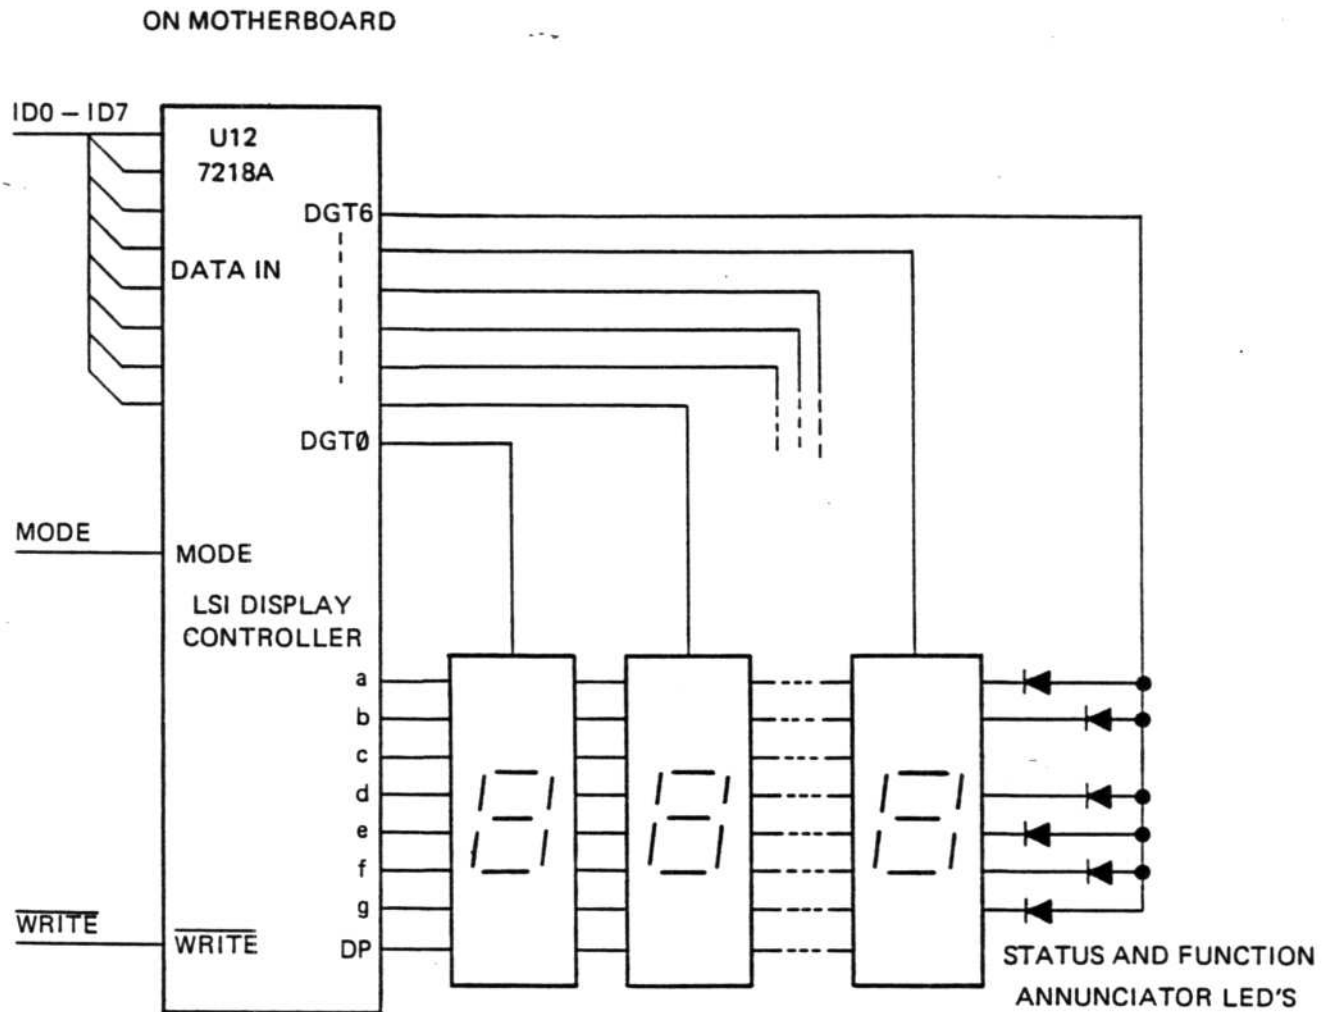

Figure 4.23 - 5001 LED Display Block Diagram
4.5.7.2.1 The display hardware is configured on both the 5001's main (section 10) and display PCBs. Located on the main PCB are the two 6-bit display latches U2 and U33, shown on schematic 431648-6 located in section 10. Located on the display PCB are the 7-segment LED readouts DS1 through DS7; the six LED status annunciators CR1 through CR2; inverter IC U1; and display driver U2, shown on schematic 431649-1. A simplified block diagram for the LED display hardware is shown in Figure 4.23 and schematics 431648-1 and 431649-1 present the display hardware circuitry.